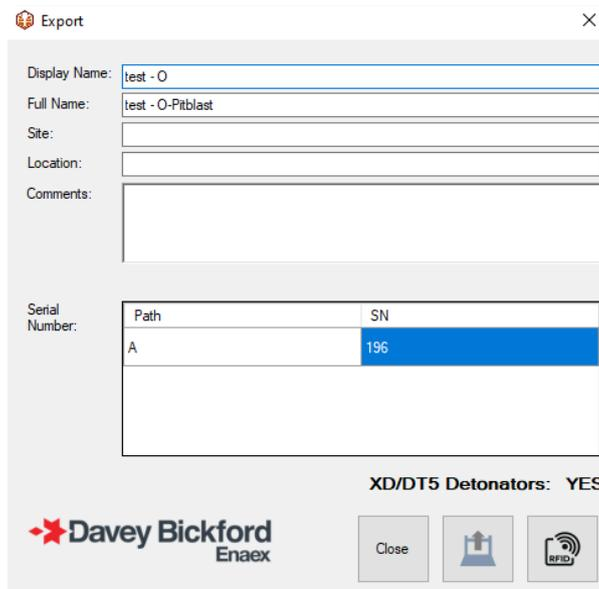

Figure 347 – Confirmation Path-PU: Path associated to the PU SN.
4. Once all paths are associated with their respective PUs, the user will see every path associated with a PU (Figure 347);